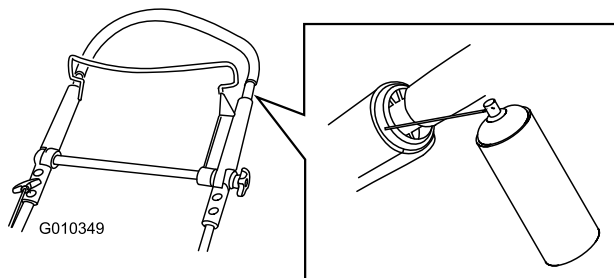

Figure 18
1. Spray the outer plastic end of the inner handle (Figure 18).